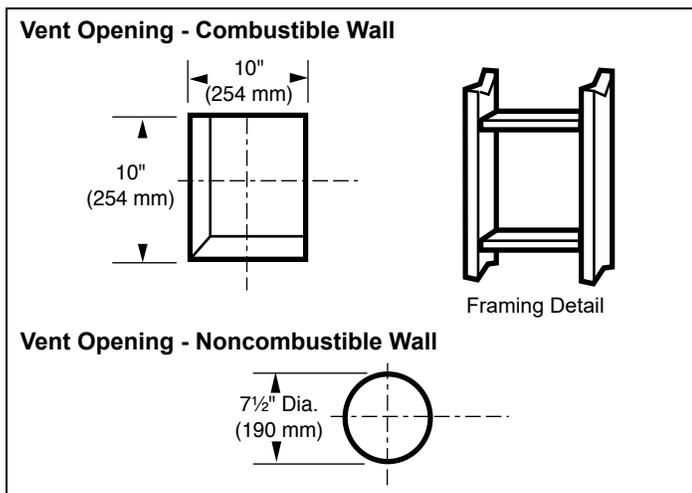

Figure 3.20 - Locate vent opening. **NOTE: Zero clearance sleeve is required for combustible wall installations.**
1. Locate the vent opening on the wall. Refer to Figures 3.20 & 3.21 to determine the top of the opening centerline. It may be necessary to first position the stove and measure to find the hole location. Depending on whether the wall is made of combustible materials, cut the opening to the size shown in Figure 3.20. Combustible wall openings must be framed as shown in Figure 3.20.